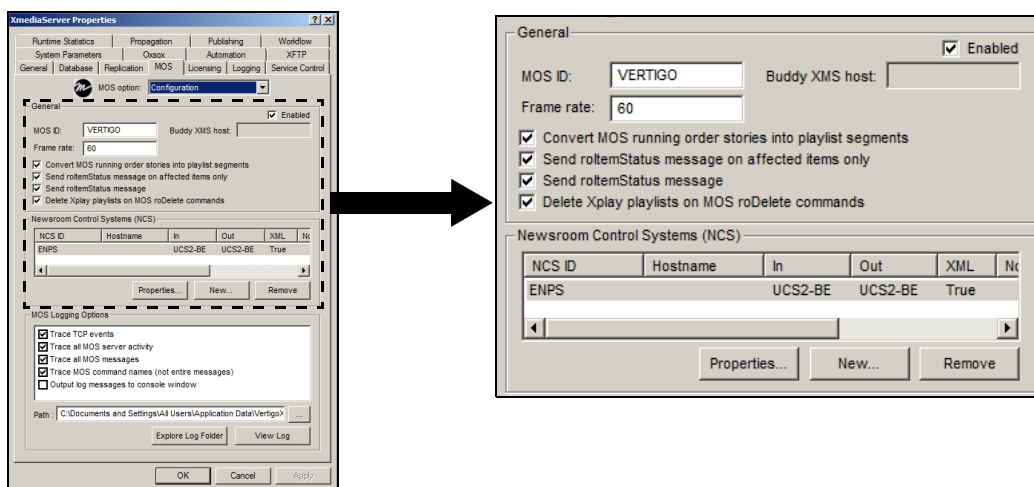

Figure 7-2. The Xmedia Server Control Panel's MOS configuration settings
Selecting the **MOS** tab on the Xmedia Server Control Panel displays the MOS component settings for the Xmedia Server. The MOS page has three (3) views, which are controlled using the **MOS OPTION** drop-down list at the top of the MOS page. Figure 7-2 shows that selecting the **CONFIGURATION** option from the **MOS OPTION** drop-down list displays the **GENERAL** and **NEWSROOM CONTROL SYSTEM (NCS)** settings, which are used to: